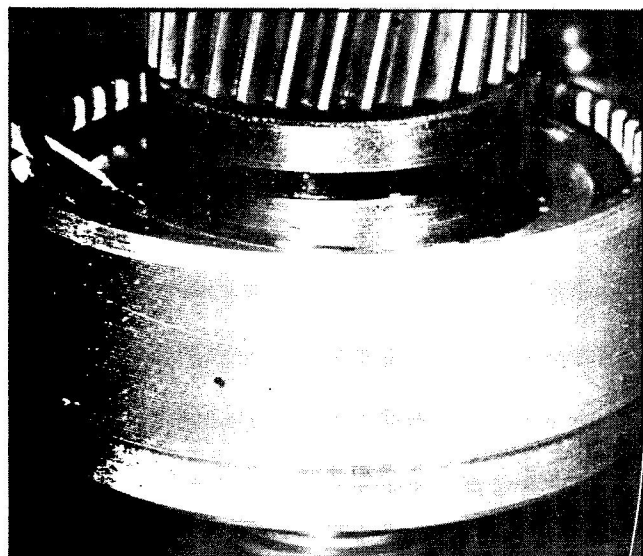

Fig. 21 Remove Snap Ring from Clutch
7. Remove snap ring from clutch cylinder, (Fig. 21).